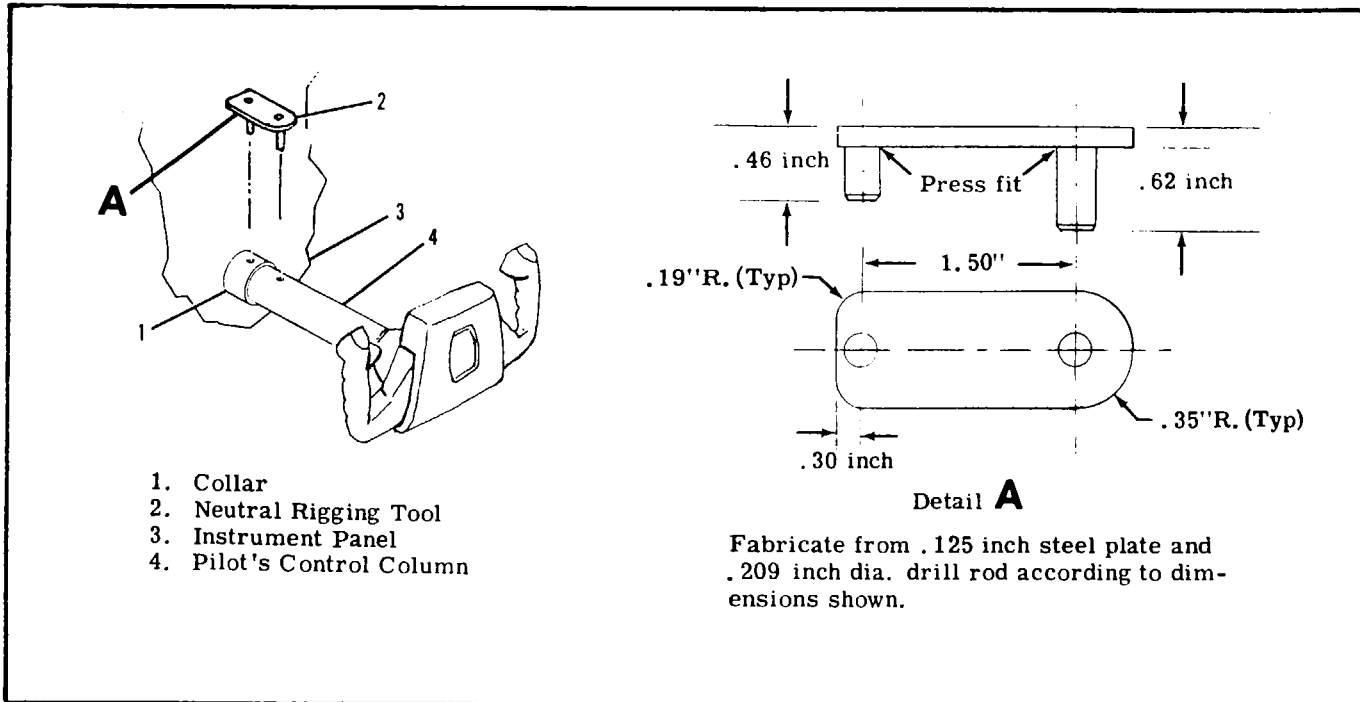

Figure 8-3. Control Column Neutral Position Rigging Tool
- Lock control column in neutral position by installing neutral rigging tool (index 2, figure 8-3).